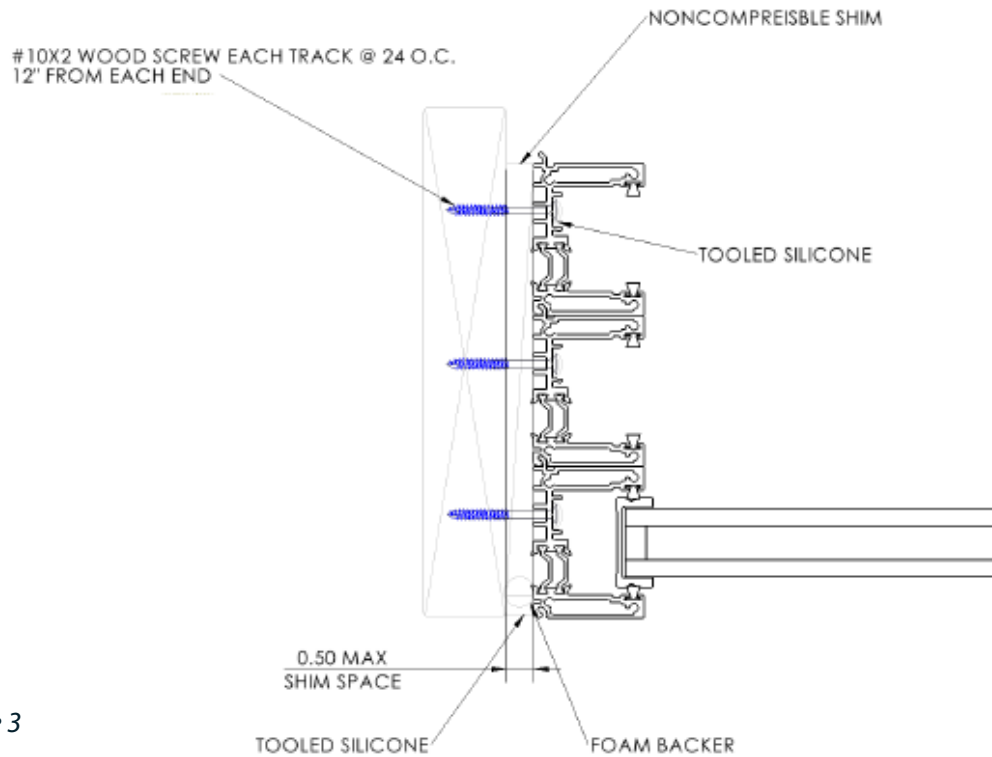

Figure 3
- Jambs – holes should be drilled 12" from each end and every 24" on center per track. See **Figure 3**.